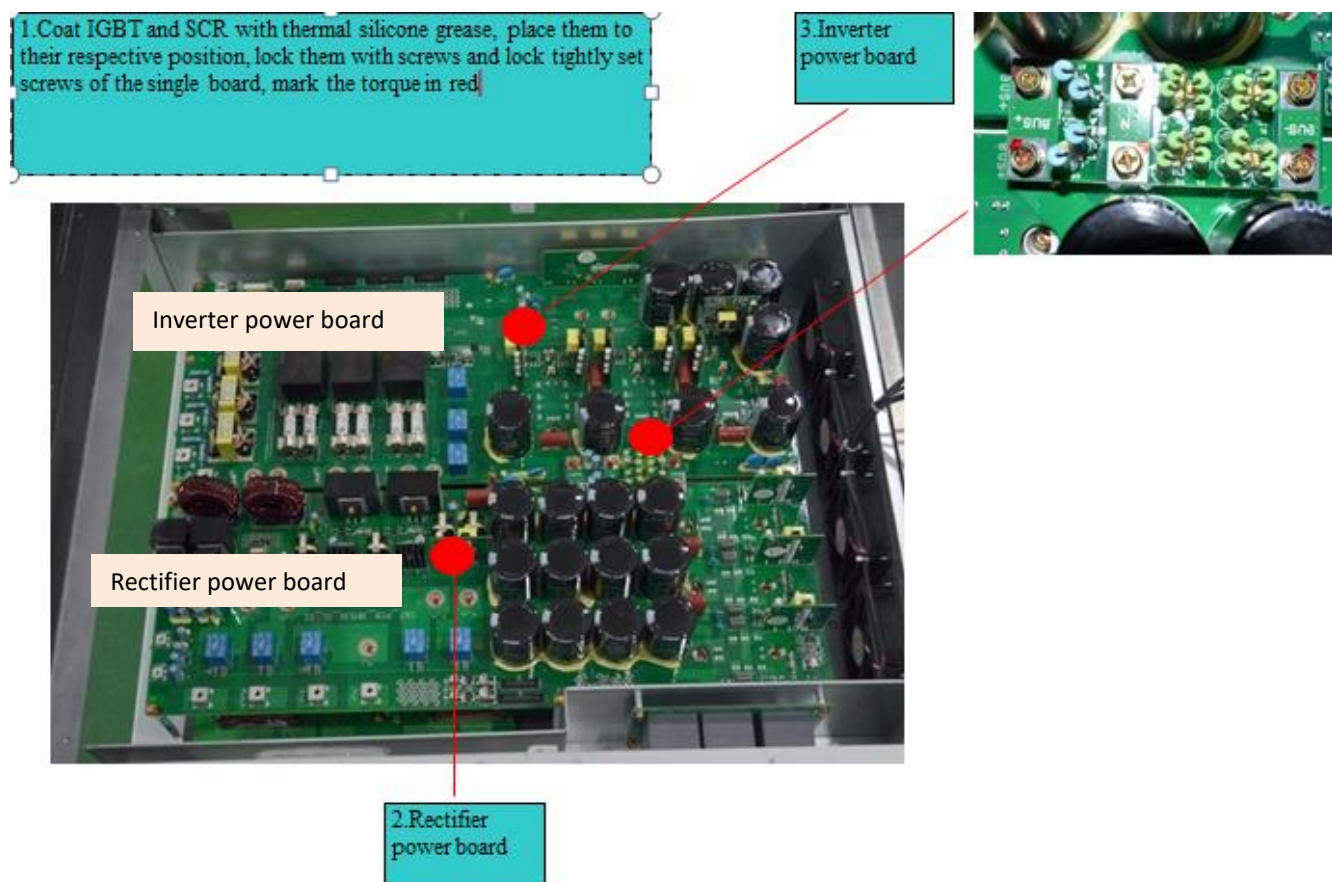

Fig 2-3 Module 1 structure for NS3030
As shown in Figure2-3, the power board consists of rectifier (GL) board and inverter (FG) board.